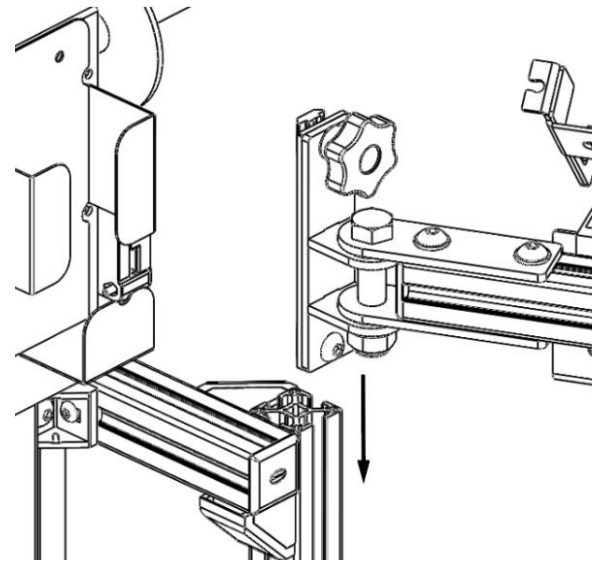

Figure 4
9. Slide the groove nuts of the hinged arm into the rear groove of the vertical support. You may have to loosen them slightly (Figure 4).